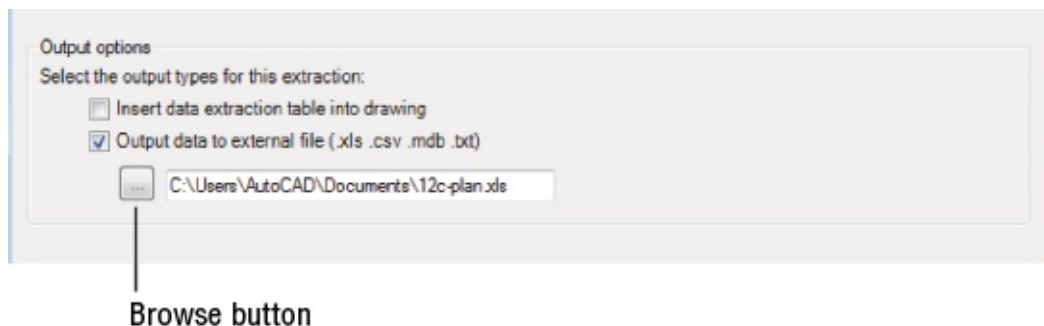

FIGURE 12.21 Enter the location to which you'll extract the data.
2. Select the Output Data To External File option. The box just below the option becomes available for input (see Figure 12.21). You can type a location for the external file, or you can click the Browse button to browse to a location.